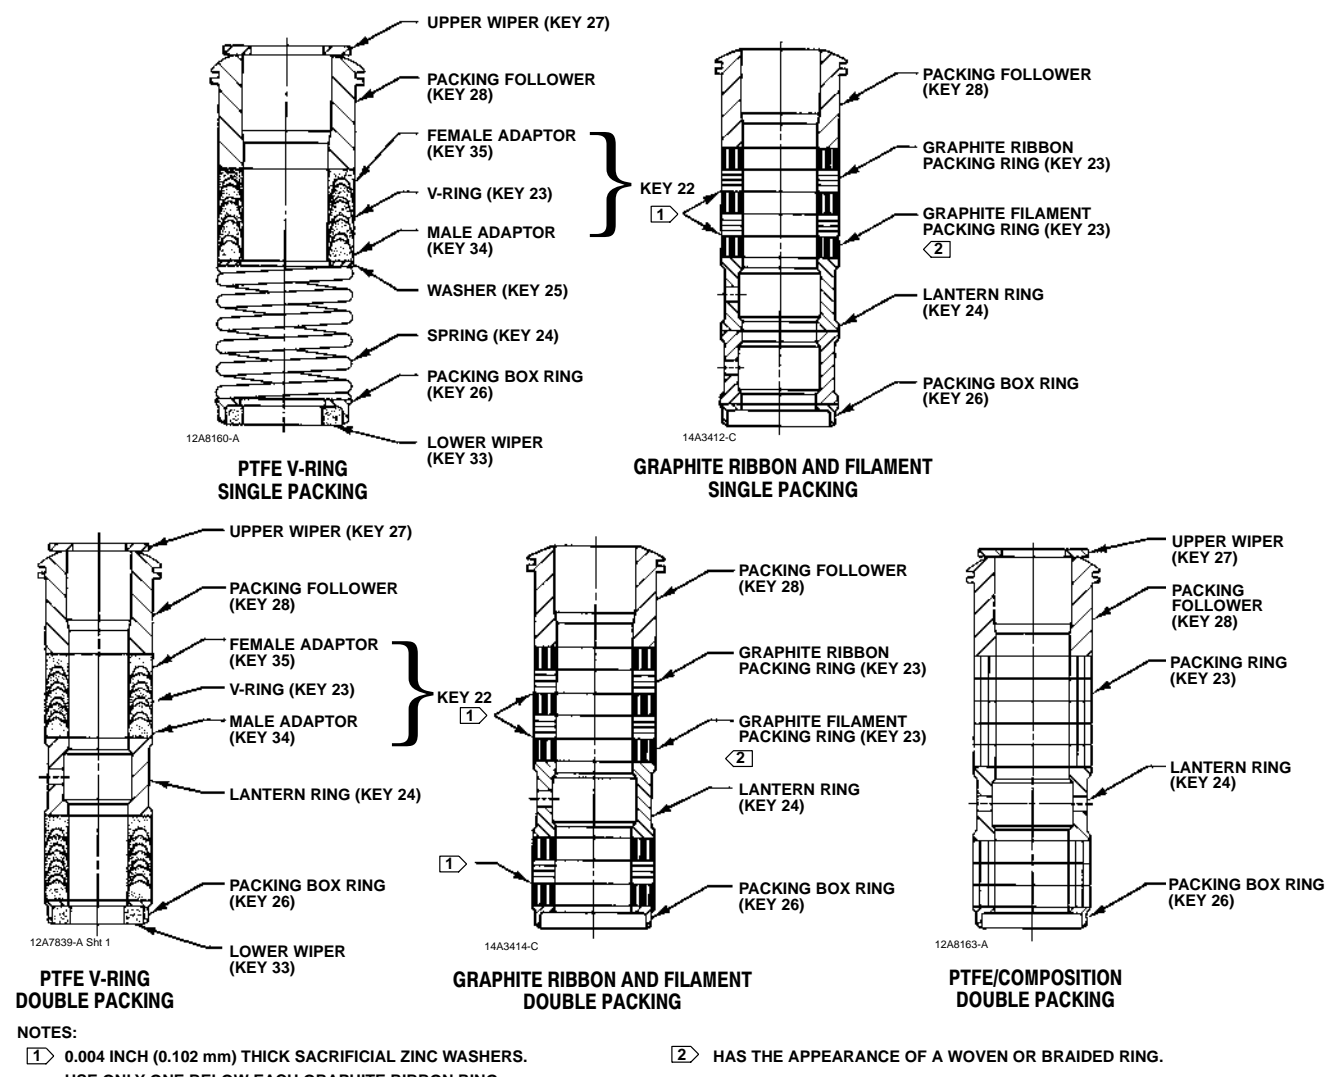

Figure 3. Packing Arrangements
If there is undesirable packing leakage in the spring-loaded PTFE V-ring packing shown in figure 3, tighten the packing flange nuts (key 21, figure 16, 17, or 18) until the shoulder on the packing follower
3. Remove either the yoke locknut (key 32) or the hex nuts (key 30), and remove the actuator from the bonnet (key 18).
4. Loosen the packing flange nuts (key 21) so that the packing (keys 22, 23, 209, or 210, figure 3) is not tight on the valve plug stem (key 6). Remove any travel indicator disk and stem locknuts from the valve plug stem threads.
15. Install new packing and the metal packing box parts according to the appropriate arrangement in figure 3. If desired, packing parts may be pre-lubricated with a silicon base grease for easier installation. Slip a smooth-edged pipe over the valve stem, and gently tamp each soft packing part into the packing box, being sure that air is not trapped between adjacent soft parts.
16. Slide the packing follower, wiper, and packing flange into position. Lubricate the packing flange studs (key 20) and the faces of the packing flange nuts (key 21). Replace the packing flange nuts.
For the spring-loaded PTFE V-ring packing shown in figure 3, tighten the packing flange nuts until the shoulder on the packing follower (key 28) contacts the bonnet.